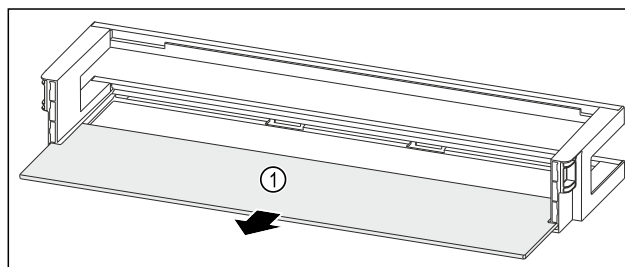

Fig. 171 Door rack with shelf
- Remove the shelf Fig. 171 (1).